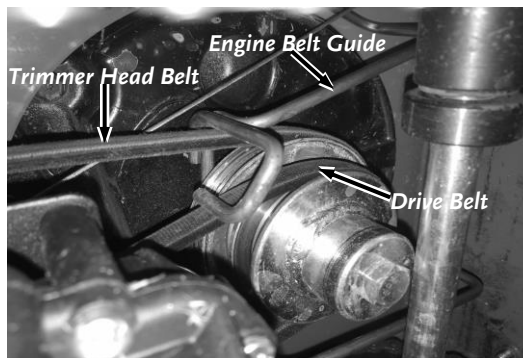

Figure 34
**Note:** Ensure that the Belts are positioned properly in reference to the Belt Guides (**Figure 34**).